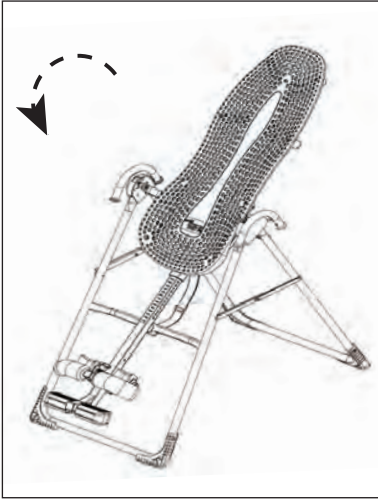

Figure 15
- Test the table by hand for smooth and steady rotation (Figure 15).